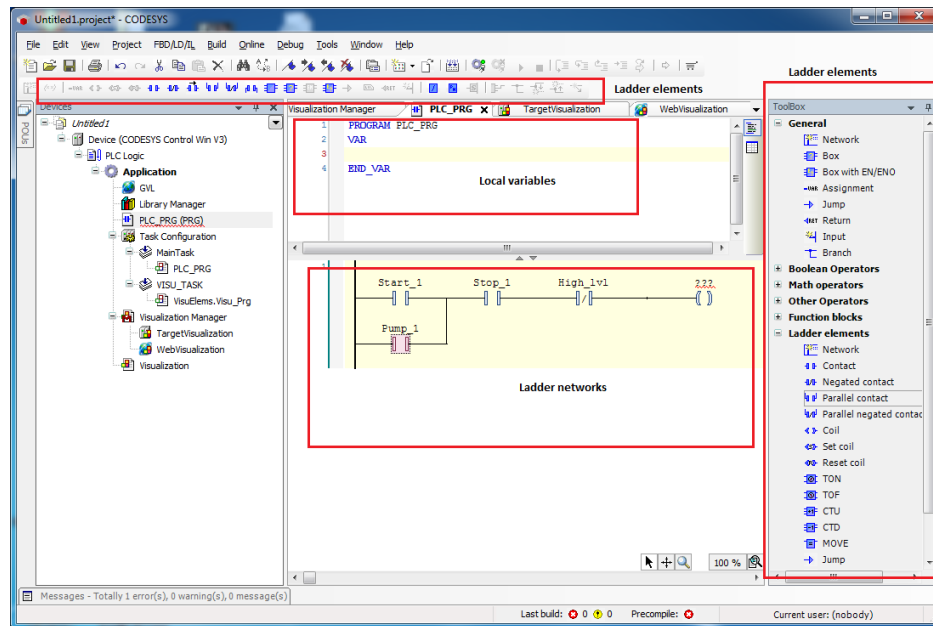

Figure 7: Network
Elements of ladder programming are available in the right panel and on the top bar, as the figure 7 highlights them. Local variables can be used to add intermediate variables that are not inputs or outputs (they are only usable in the current POU (program organization unit)). Here, the POU is the PLC\_PRG file in ladder language.
**Parallel branch** In order to have a parallel branch that comes back up to the same output (like `Start_1` and `Pump_1` on fig 7), you first need an element on the network. Right-click it and choose Insert Contact Parallel.